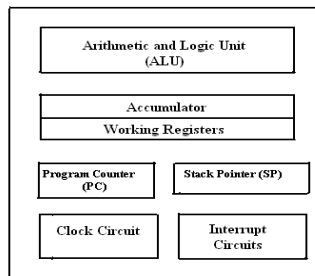

Fig.1 Block diagram of a Microprocessor.
A CPU built into a single VLSI chip is called a microprocessor. It is a general-purpose device and additional external circuitry are added to make it a microcomputer. The microprocessor contains arithmetic and logic unit (ALU), Instruction decoder and control unit, Instruction register, Program counter (PC), clock circuit (internal or external), reset circuit (internal or external) and registers. But the microprocessor has no on chip I/O Ports, Timers, Memory etc. For example, Intel 8085 is an 8-bit microprocessor and Intel 8086/8088 a 16-bit microprocessor. The block diagram of the Microprocessor is shown in Fig.1